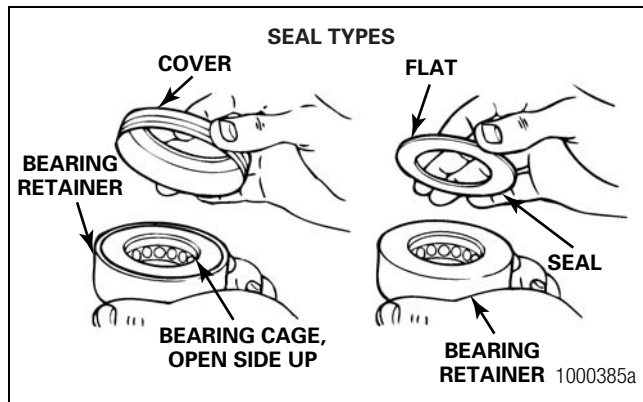
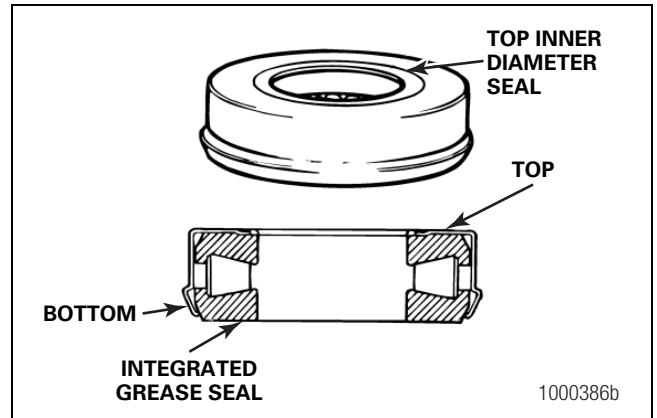

Figure 6.13
Figure 6.14
2. Install the seal onto the thrust bearing. Figure 6.13. The surface with the inner diameter seal must be be on the top. The surface with the outer diameter seal must be on the bottom. Figure 6.14.